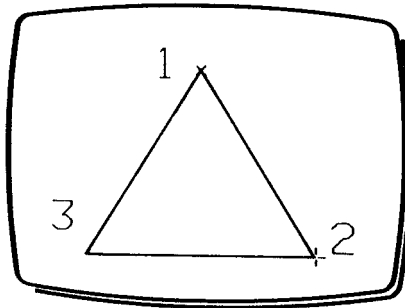

Fig 1
- 1 Move XY to move the dynamic cursor to (1) in Fig 1.**